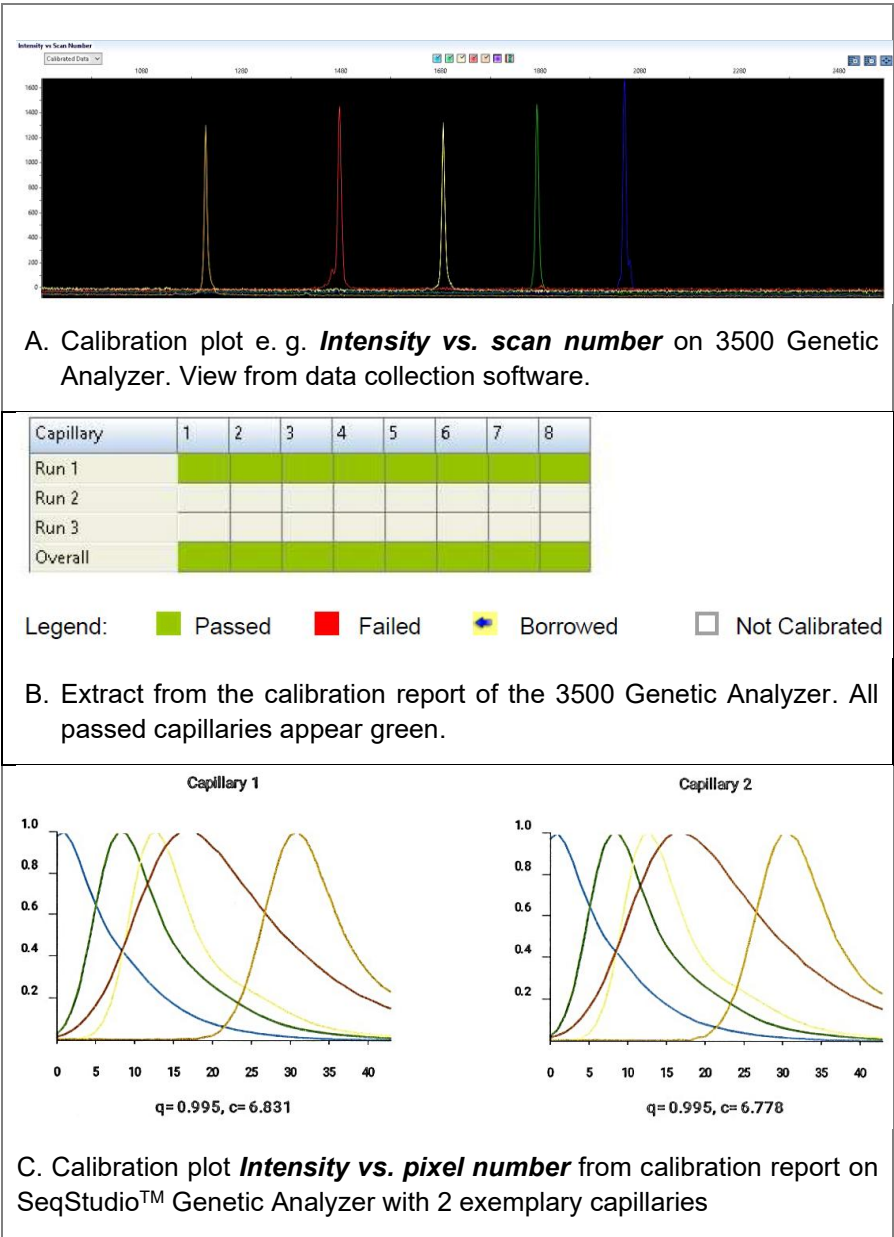

Figure 1. Visualization of calibration data on different Genetic Analyzers
Both values can be found in the **calibration report** (see Figure 1 for 3500 Genetic Analyzer (B) and SeqStudio™ Genetic Analyzer (C))